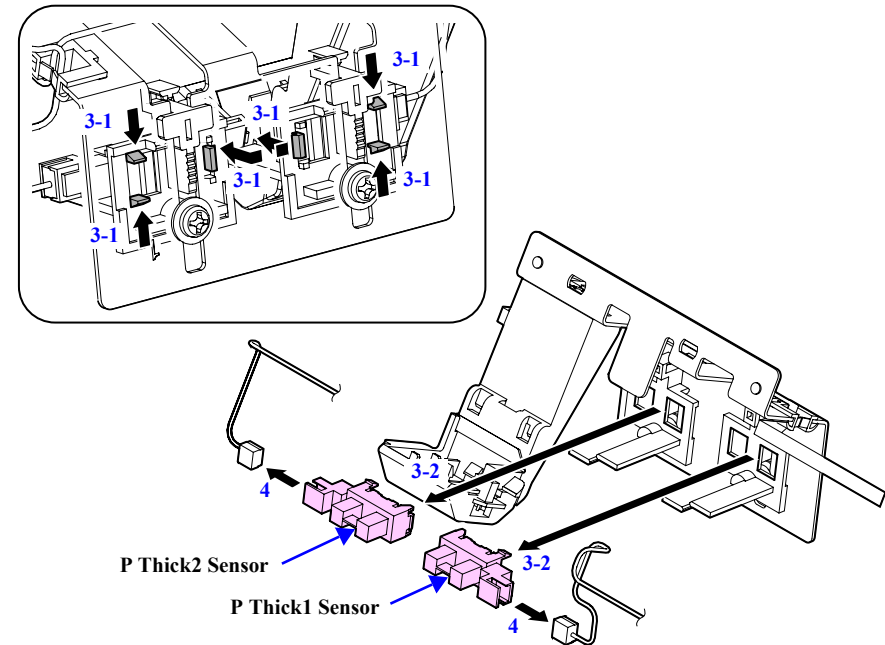

Figure 4-94. Removing the P Thick1 Sensor and P Thick2 Sensor
3. Release the three tabs that secure each of the P Thick1 Sensor and the P Thick2 Sensor and remove the two Sensors. *See Figure 4-94.*
4. Remove the connector both from the P Thick1 Sensor and the P Thick2 Sensor. *See Figure 4-94.*